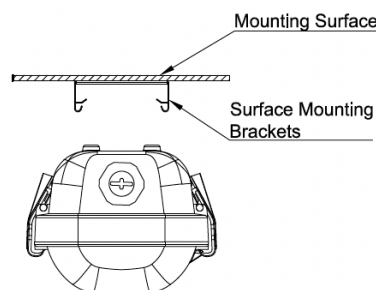
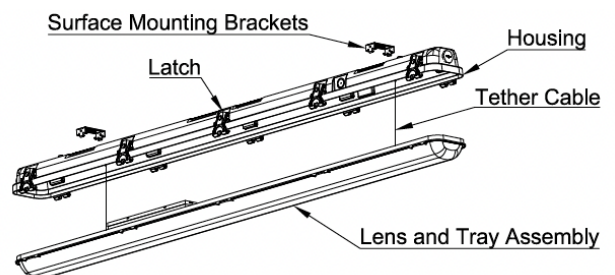

Fig. 2
Fig. 3
2. Attach the back of the luminaire's housing into the mounting brackets (Fig. 2). Ensure the LED tray is secured with the safety tethers. Unlatch the Lens and Tray Assembly from Housing (Fig. 3).